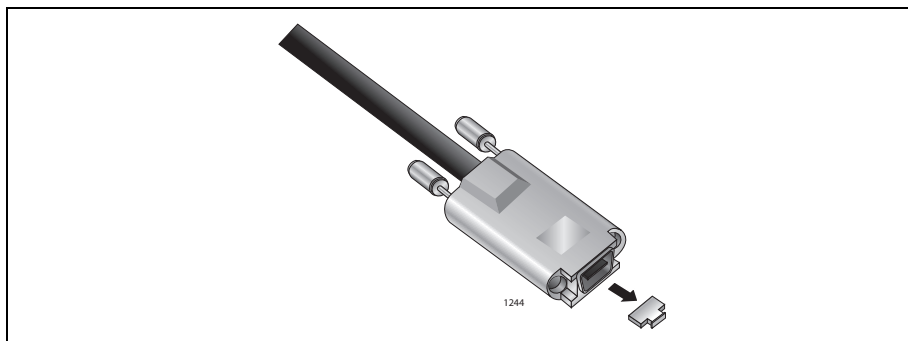

Figure 24. Removing the Plastic Protector
1. Remove the plastic protectors from the connectors on the AT-StackXG/.5 Stacking Cable shipped with the stacking module. Refer to Figure 24.
5. After removing the plastic protectors from the connectors on the AT-StackXG/1 Stacking Cable as shown in Figure 24 on page 60, connect the cable to the unused Stack Ports on the top and bottom switches of the stack. The connections must crossover with the cable connecting to different numbered ports on the stacking modules.